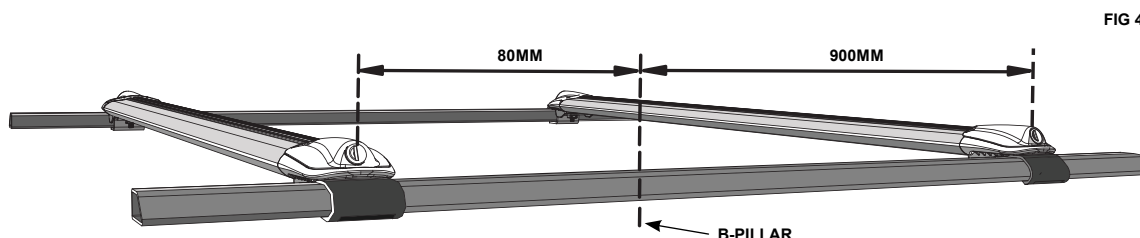

FIG 4
5. Place the Cross Bars on the vehicle rails at the designated distances from the B-Pillar on the rail (Fig 4).